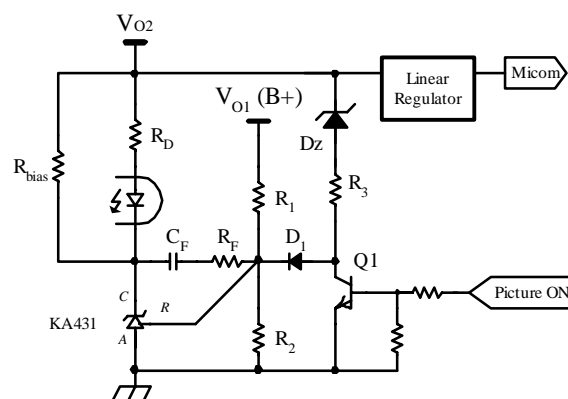

Figure 12. Typical feedback circuit to drop output voltage in standby mode
-Auto-restart mode protection: Once the fault condition is detected, switching is terminated and the Sense FET remains off. This causes V_{cc} to fall. When V_{cc} falls down to the under voltage lockout (UVLO) stop voltage of 9V, the protection is reset and FSCQ1565RP consumes only startup current (25uA). Then, V_{cc} capacitor is charged up, since the current supplied through the startup resistor is larger than the current that FPS consumes. When V_{cc} reaches the start voltage of 15V, FSCQ1565RP resumes its normal operation. If the fault condition is not removed, the SenseFET remains off and V_{cc} drops to stop voltage again. In this manner, the auto-restart can alternately enable and disable the switching of the power Sense FET until the fault condition is eliminated (see Figure 12).